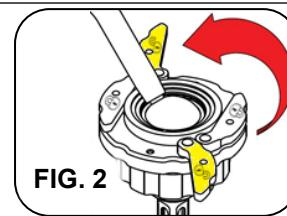

FIG. 2
1. Remove the *CLICK RELEASE™ miniARM®* from the rail clamp by rotating the unlock wings away from their storage position and then turning the attachment nut counterclockwise (FIG. 2).